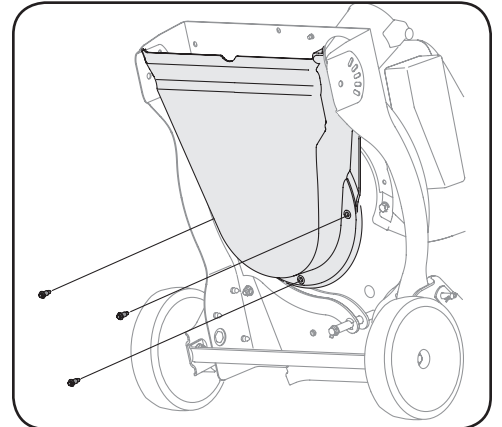

Figure 7-10
12. Carefully tilt and support the unit up to provide access underneath to the nozzle mounting hardware and impeller. Remove the three shoulder bolts securing the black plastic lower flail housing to the lower housing. Refer to Figure 7-10.